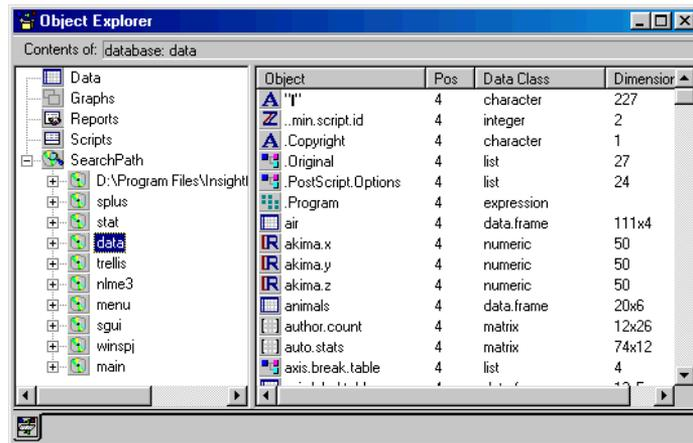

Figure 7.2: *Displaying the contents of a database in the right pane.*
- In the left pane, select a database (for example, **data**) by clicking its icon. The contents of that database are displayed in the right pane, as shown in Figure 7.2.